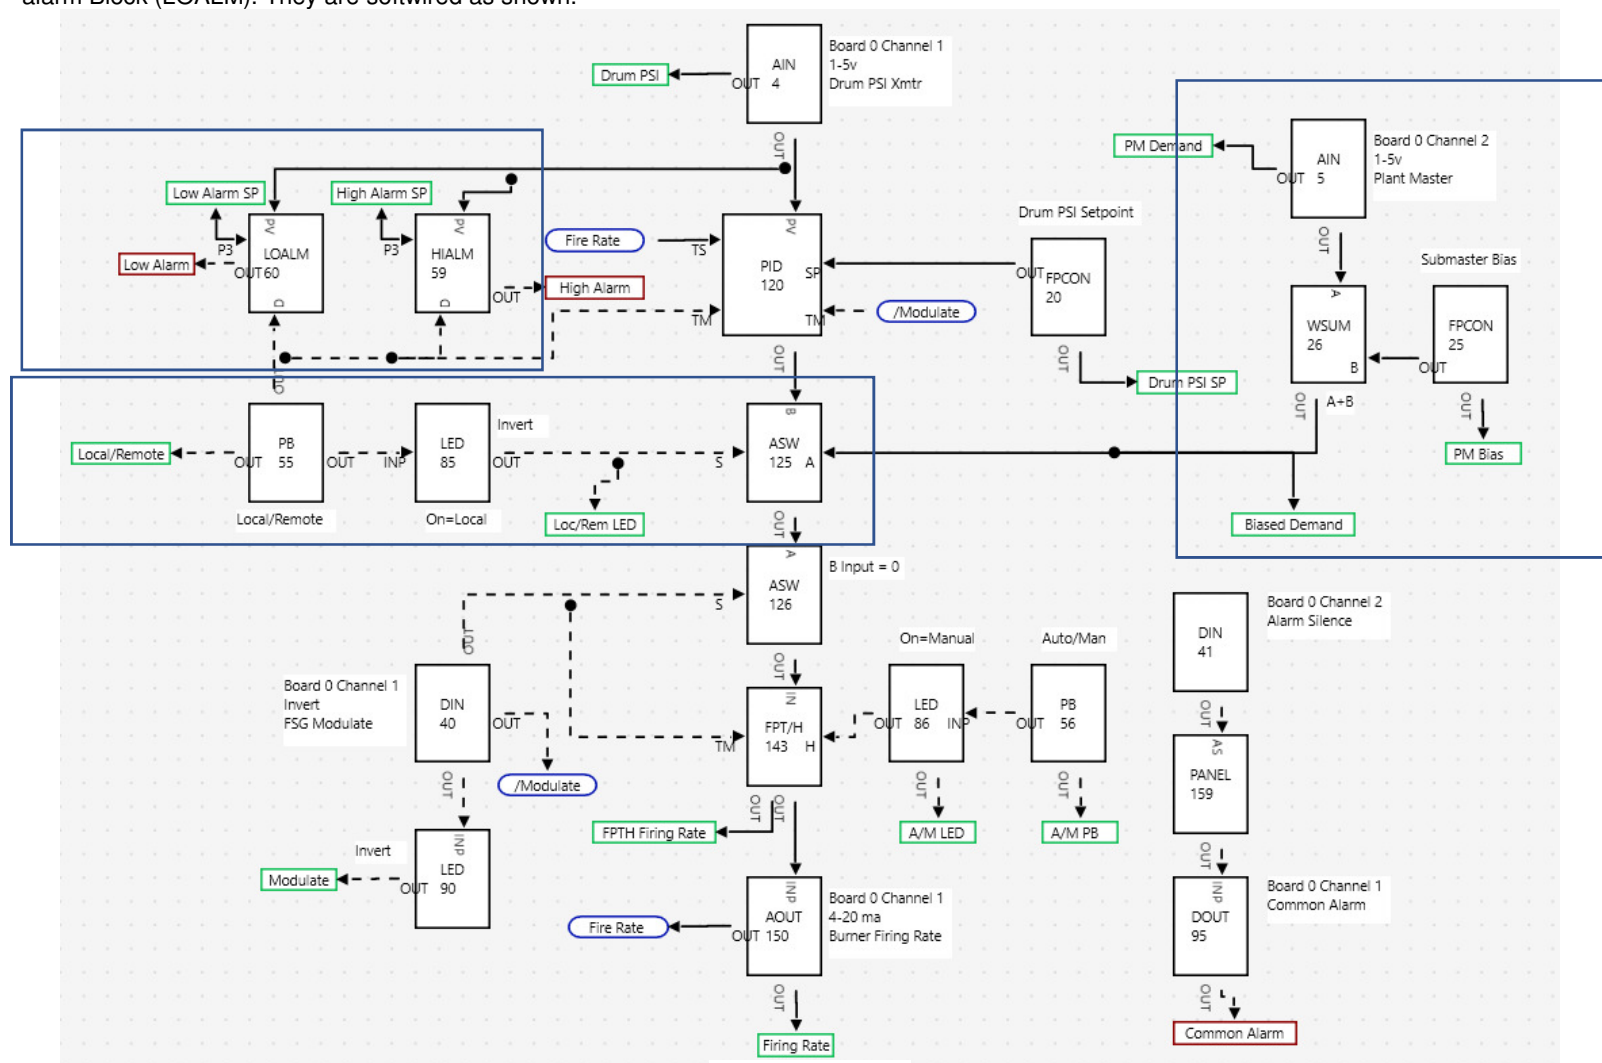

Figure 5.3
Figure 5.3 (below) highlights each section that is to be added to the original configuration. The Plant Master section will require an input Block (AIN), a Front Panel Constant Block (FPCON) for the Submaster bias, and a weighted sum Block (WSUM) to calculate the bias. The Plant Master / Local PID selector requires a pushbutton Block (PB), an indicator Block (LED) and a switching Block (ASW). The alarm section requires a high alarm Block (HIALM) and a low alarm Block (LOALM). They are softwired as shown.